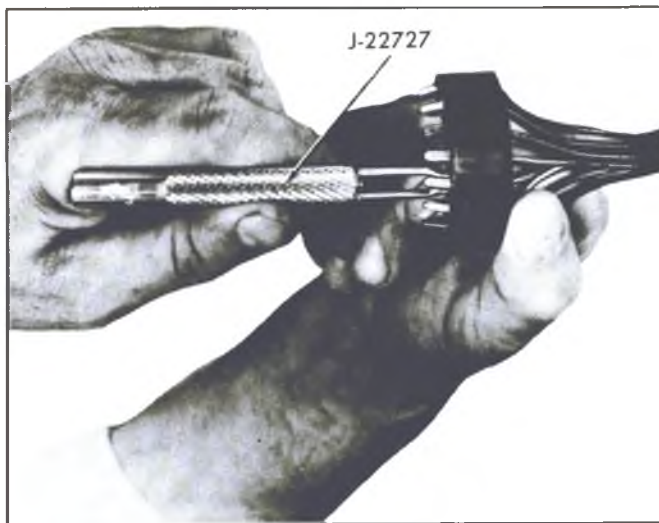

Fig. 84—Removing Wires from Connector
6. Mark the location of each wire in the half-moon connector and then remove each individual wire from the connector using Tool J-22727 (fig. 84). Insert the tool into the lower end of the connector and push in until the tool bottoms on the connector. Remove the tool and then pull the wire from the connector.